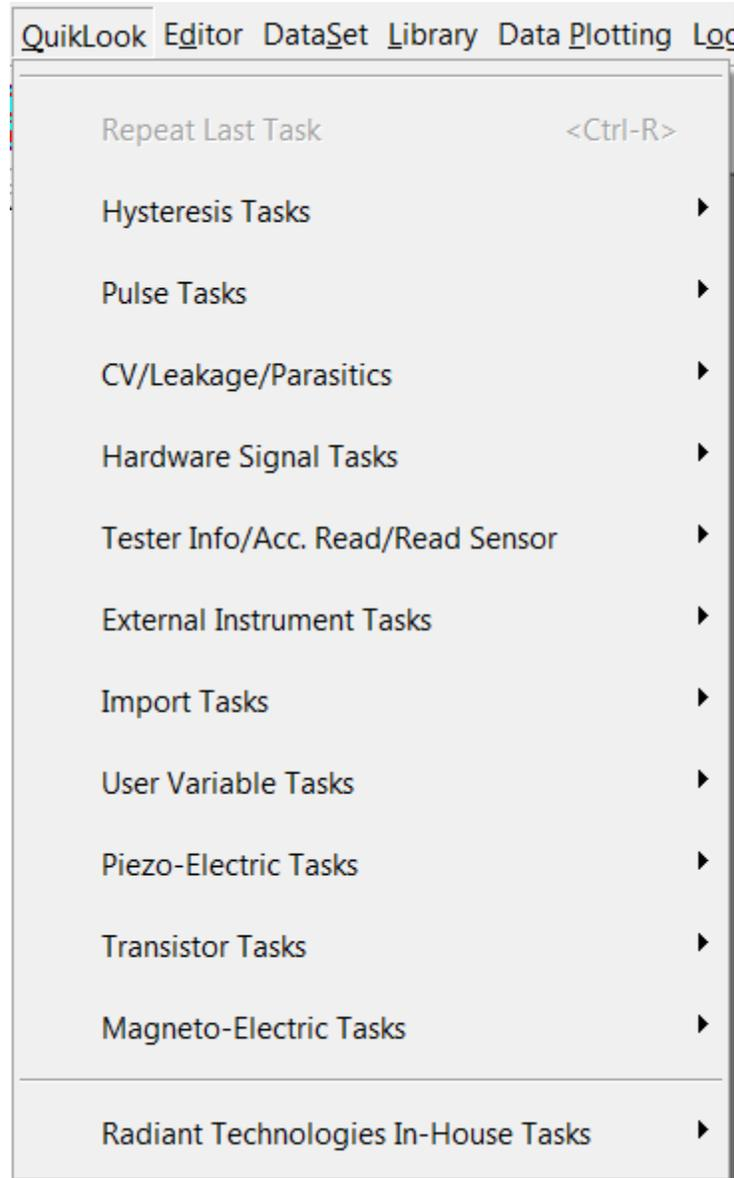

Figure 2 - Root QuikLook Menu.
V.F - QuikLook (Figure 2)– Perform the following Tasks independently of a DataSet for a quick sampling. (See Below) The QuikLook menu has been divided into categories to make organization easier. (Note that the "Repeat Last Task" option is disabled. This is a bug that needs correction. However, the action can be taken by pressing <Ctrl-R> as indicated in the menu label.)